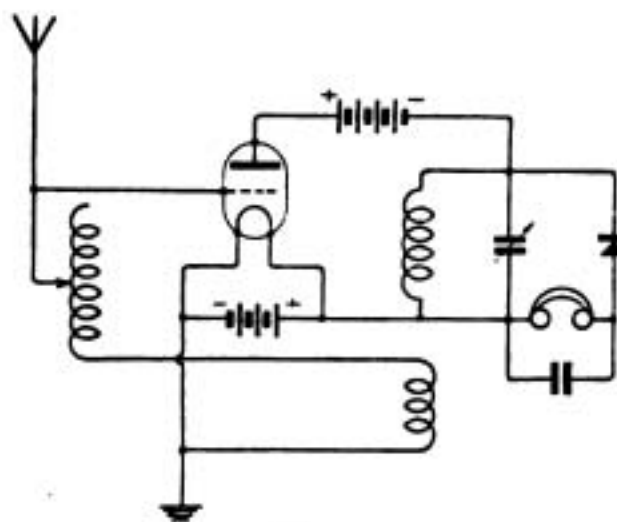

Fig. 7.
(2) Use a valve with the existing set and connect up as in Fig. 7. Re-wind the primary on a slightly smaller tube so that it will slide in and out of the secondary for reaction. Change over primary connection when using the valve set to get the best results.